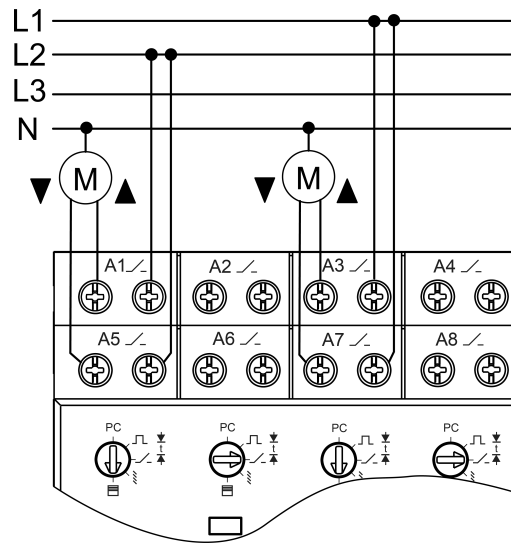

Figure 5: Connection example of Venetian blind loads
- Connect loads as shown in the connection example of Venetian blind loads (figure 5).